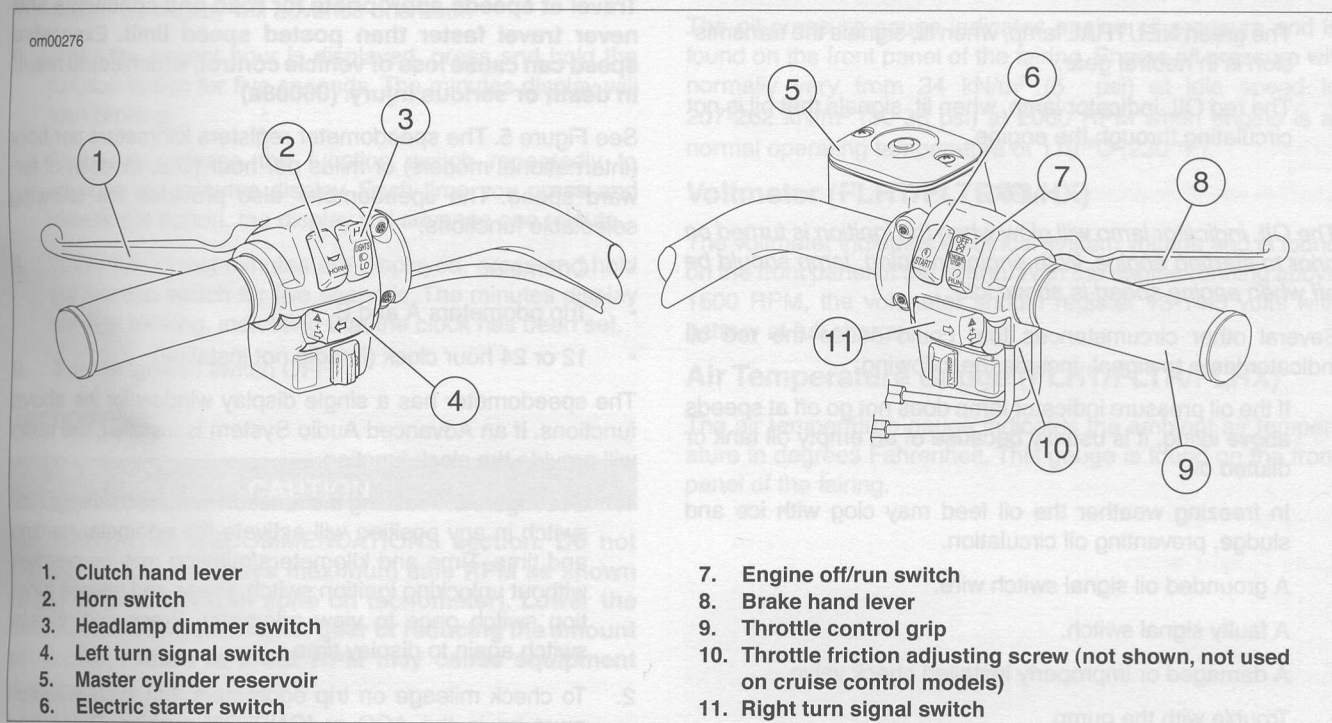

Figure 3. Basic Handlebar Controls: FLHRCI Shown (typical)
See Figure 3. The electric starter switch is located on the right handlebar control group. See OPERATION, Starting the Engine for detailed operation procedures.
See Figure 3. The engine off/run switch (7) turns the ignition power ON or OFF. The engine off/run switch is located on the right handlebar control. Push the top portion of the engine off/run switch to turn off ignition power and shut the engine off. Push the bottom portion of the engine off/run switch to turn on ignition power.
See Figure 3. The throttle control grip (9) is located on the right handlebar control and is operated with the right hand.
See Figure 3. Each handlebar control group contains a turn signal switch.